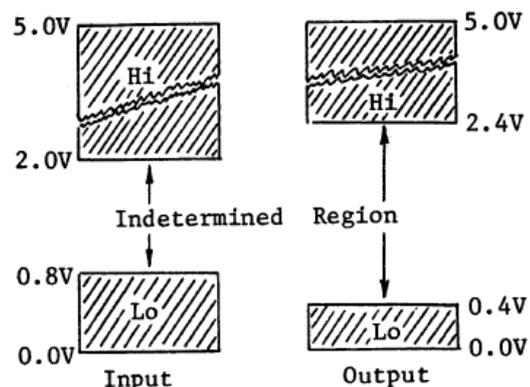

Fig. 1. Voltage ranges for TTL.
TTL logic is binary in character — it admits only two possible states called Hi (or "1") and Lo (or "0"). The range of voltage that corresponds to a Hi or Lo differs somewhat depending upon whether one is dealing with TTL inputs or outputs (see Fig. 1). Permanent Hi's are available on the Digi-Designer at the +5V pins above the strip socket; permanent Lo's are available at the ground pins below the strip socket. The LOGIC SWITCHES can be used to provide temporary Hi's and Lo's. A LOGIC SWITCH in the up position produces a Hi (+5.0V) at its output pin while a switch in the down position produces a Lo (0.0V). When the position of the logic switch is reversed, contact bounce in the switch produces a short but random burst of pulses before the final state is attained. Such a burst of pulses is unacceptable in many applications and hence the user is provided with a pair of PULSERS which make clean transitions from one state to another. Each PULSER is dual (it has two outputs); one of these outputs (designated "1") makes a temporary transition to Lo as long as the button is depressed; the "0" output on the other hand, makes a temporary transition to Hi. Pulses of any time duration can be produced. The PULSER Hi is 3.8V and its Lo is 0.0V.
**Part (F):** Wire the CLOCK and a LOGIC SWITCH to the inputs of the first gate, but make provision for wiring the output of this gate to the BNC connector, a LAMP MONITOR, and/or all six inputs to the other *three* gates. With the clock set at 1KHz, use your scope to investigate the absolute and comparative loading effects of the gates and the LAMP. Note the input and output voltage levels (especially the voltage of the Lo) and compare to Fig. 1.
**Part (G): Measuring the Speed of TTL Gate Response**